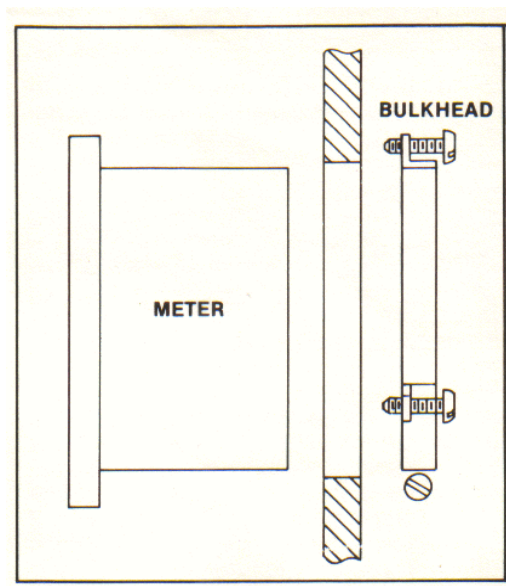

Figure 3.6
4. Loosen clamp ring. Install on the case from rear as shown in Figure 3.6. With the indicator flange against the bulkhead position the clamp against the rear of the bulkhead and tighten securely. Turn the three bracket screws clockwise until the indicator flange is seated snugly against the bulkhead. Do not over-tighten. Over tightening will cause the clamp to slip.